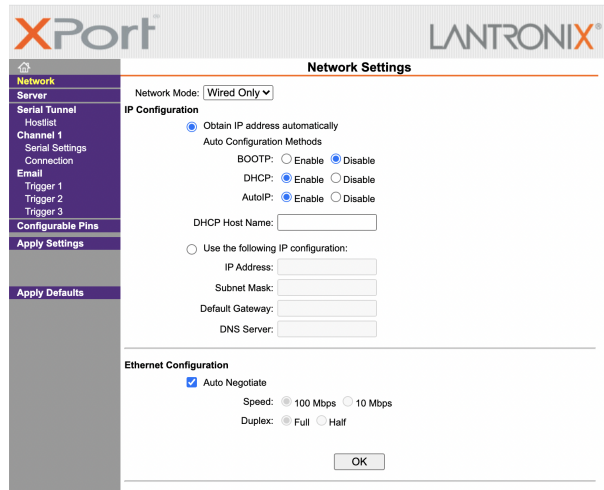

Figure 2: Network settings of the Device
6. You will now be able to access the device settings. Select "Network" from the left menu to configure IP settings. The page will look as shown in Figure 2.